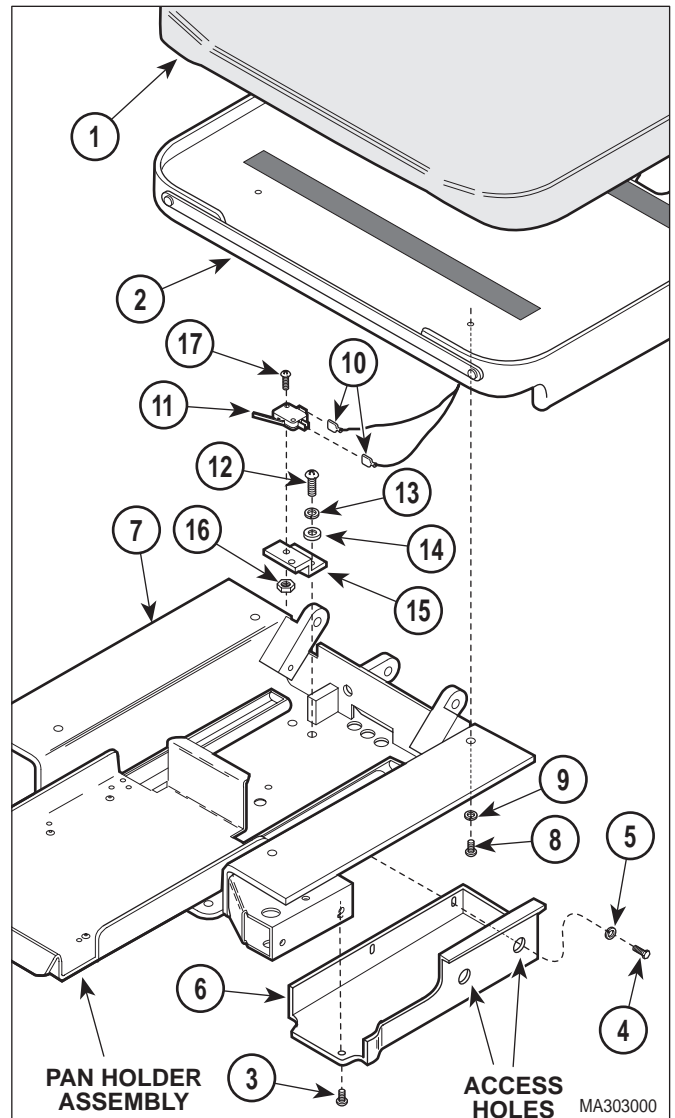

Figure 4-9. Pan Safety Limit Switch Removal / Installation / Adjustment
- (1) Unplug table power cord from wall outlet.
- (2) Remove upholstered seat (1, Figure 4-9) from seat board assembly (2).